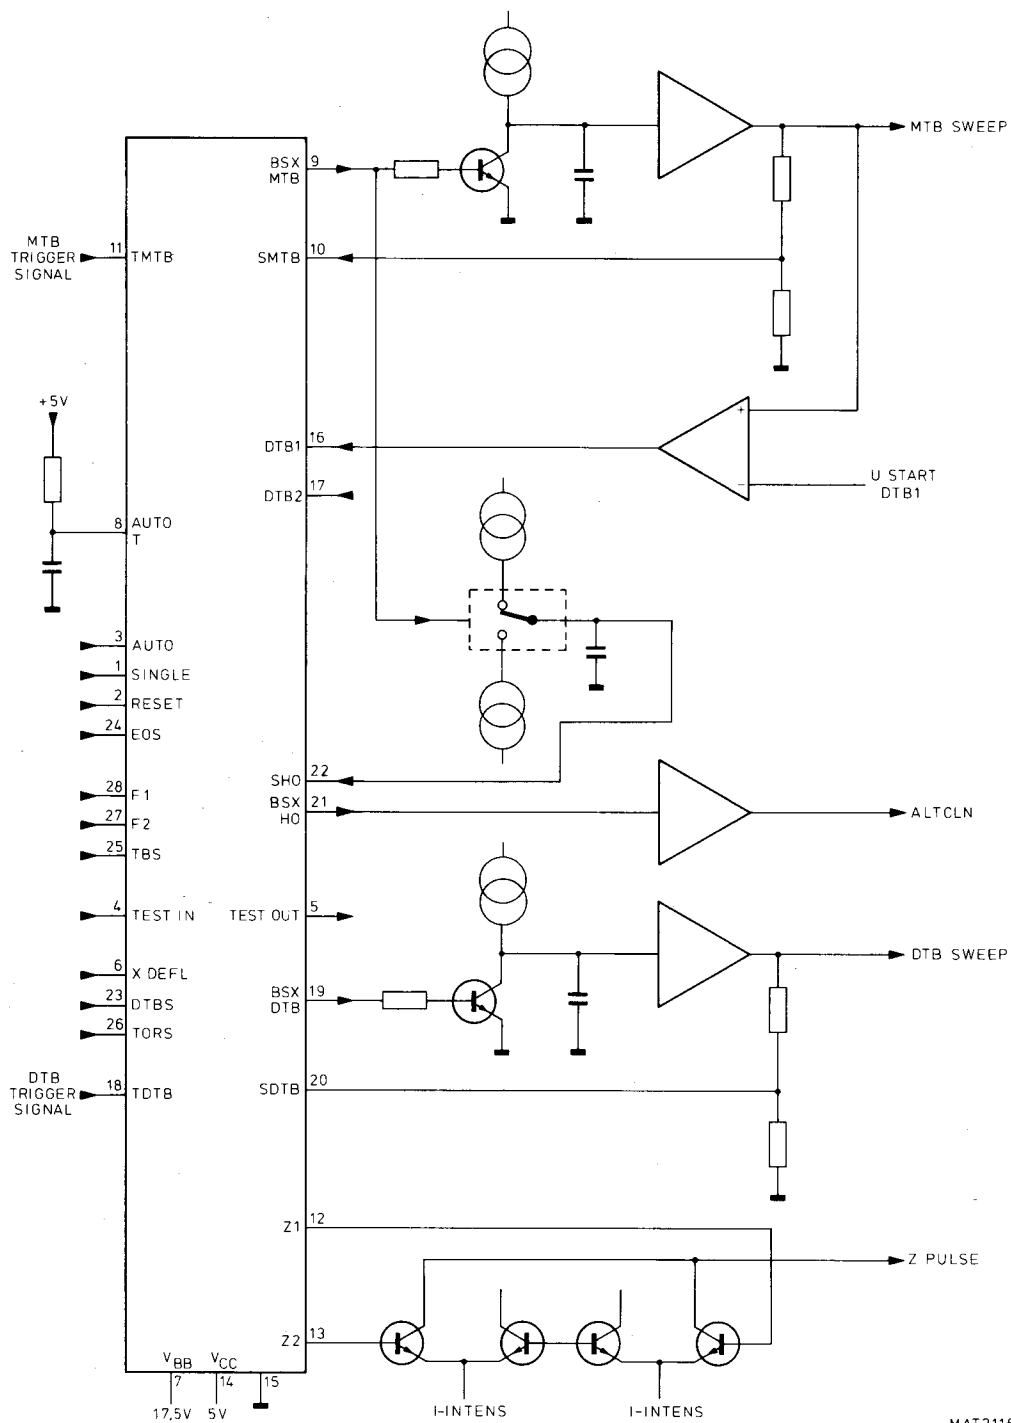

Figure 7.1 D4103 configuration
7.2 TIMING CIRCUIT (see figure 7.1)